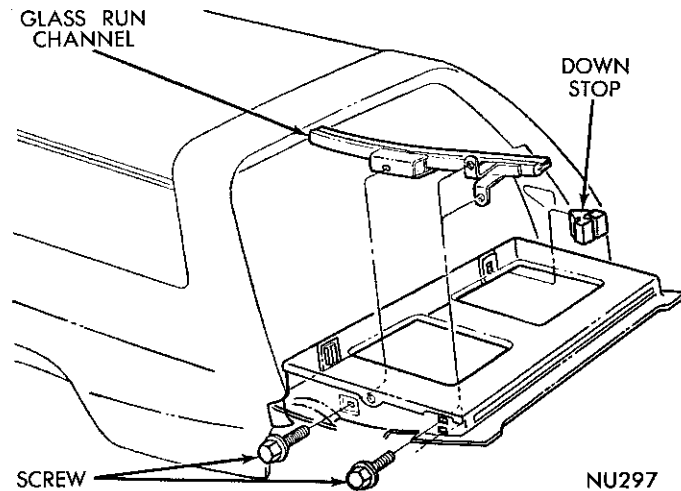

Fig. 93—Glass Run Channel
- (1) Remove the tail gate glass assembly.
- (2) Remove tail gate pillar to glass run channel screws (Fig. 93).
- (3) Remove channel assembly through access holes in inner panel.